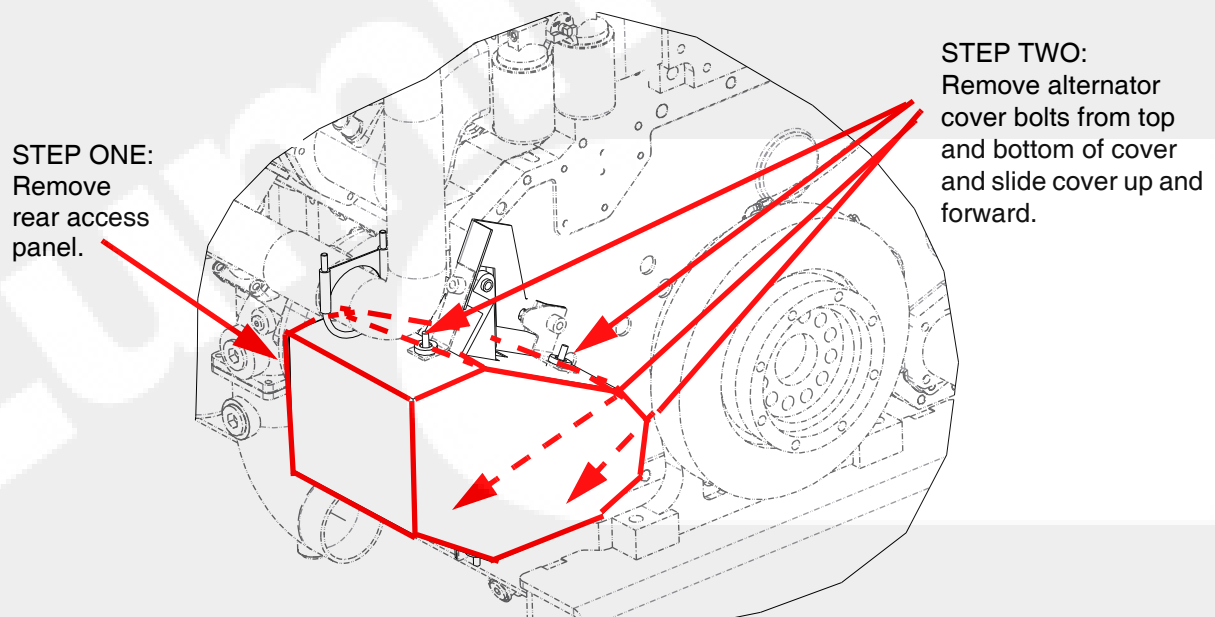

Figure 7-39 GenSet alternator belt cover (GenSet left side)
2. Figure 7-39 shows the alternator belt cover. To access the alternator belt:
2. To access the alternator belt (see Figure 7-39):